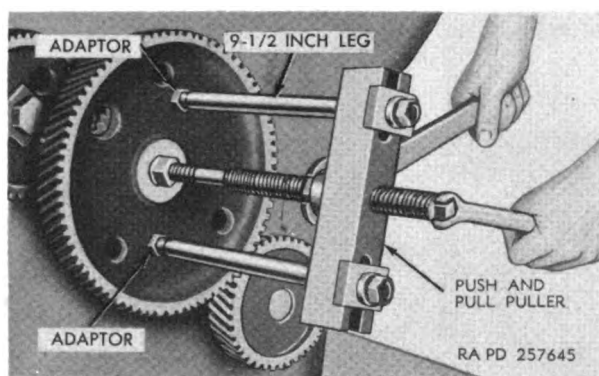

Figure 175. Pulling camshaft gear.
(2) *Pulling camshaft gear.* Using the push and pull puller with 9½-inch legs with two adapters is shown in figure 175. Here the camshaft gear is being removed without removing the camshaft from the engine. A protective plate should be used under the forcing screw to protect the end of the camshaft.